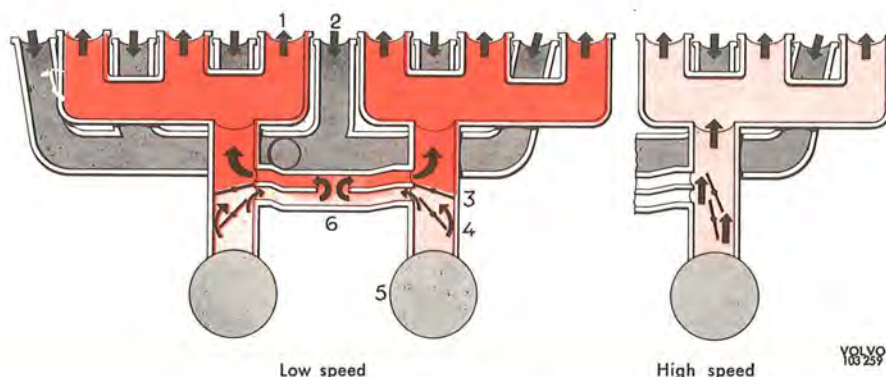

Fig. 2-58. Exhaust emission control system, principle of operation
How the system works is illustrated in Fig. 2-58. (For a description of the manifold branch, see page 2 : 7.) The intake manifold is fitted with a secondary throttle (3) at each carburettor. For normal driving (with low power output) the throttles (3) are closed thus forcing the mixture of fuel and air from the carburettors to a central preheating chamber (6) where the intake charge is heated and thoroughly mixed, whereby a completely evaporated and homogenous mixture is obtained.